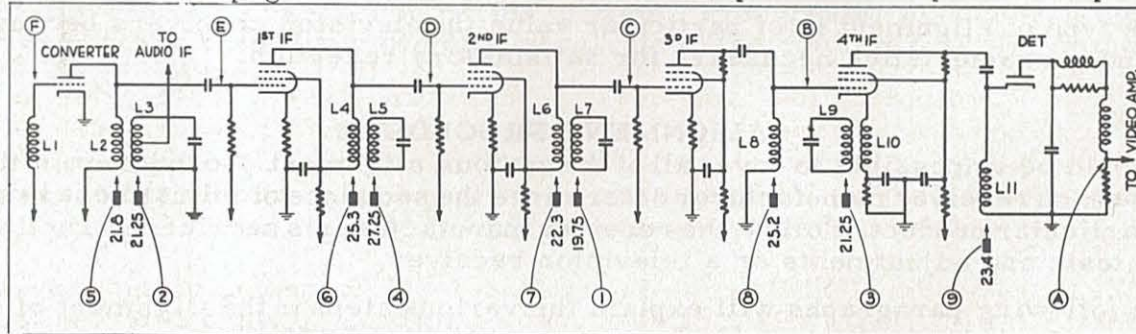

FIGURE. 4. TYPICAL TV VIDEO IF SYSTEM
10. Refer to the receiver manufacturer's literature for the frequencies which will be required during the adjustment. Determine the logging scale settings to tune these frequencies; use the instructions given under CALIBRATION PROCEDURE in this manual. The frequencies specified for this example of a typical circuit are; 19.75, 21.25, 21.8, 22.3, 23.4, 25.2, 25.3, and 27.25 mc. See figure 4. A new tendency among receiver manufacturers is to use an intermediate frequency centered around 45 mc.
11. Set the OUTPUT cable termination for 75 ohms by jumpering terminals 6-7-8-9-5 and terminals 2-3-4. (Open termination may be preferred. See table 2 for instructions.) Connect the alligator clip on the end of the probe to point "F" of figure 4. Connect the ground lead of the probe to the receiver chassis. Note that the alligator clip and ground lead may provide too much inductance for use at 45 mc. See the special instructions on page 24. Connect the SIGNAL INPUT cable to point "A" of figure 4.
13. Set the A.M. GENERATOR logging scale to the point recorded for 19.75 megacycles and adjust L7 (point "1" of figure 4) for minimum pattern height. If the pattern disappears completely, increase the attenuator setting until the exact minimum point can be observed.